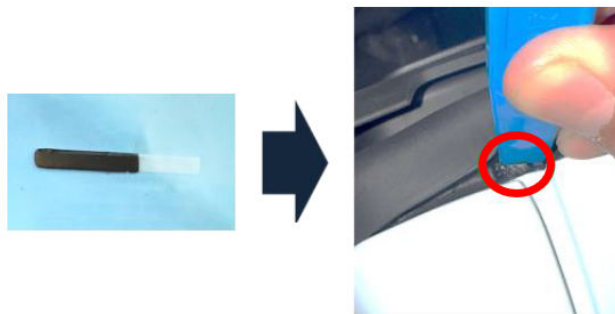

Fig. 5
1. If insufficient wet-out is confirmed, use a trim stick or equivalent tool to repair the condition by filling all identified voids with cold Butyl Fig. 5.